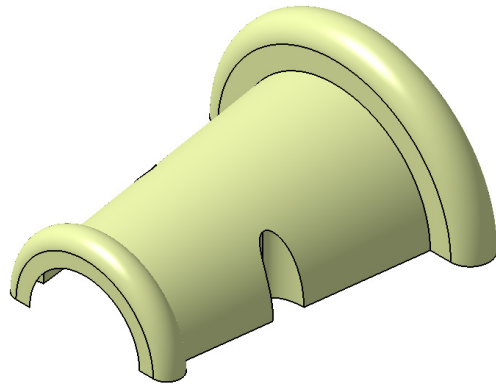

Figure 17-90 Model after trimming the base surface
3. Choose the **OK** button from the **Trim Definition** dialog box. The model after trimming the base surface is displayed in Figure 17-90.